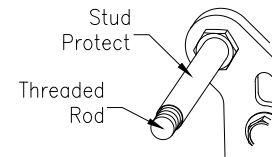

Figure 12.
12. Slide plastic stud protectors onto the threaded rods. See **Figure 12**.